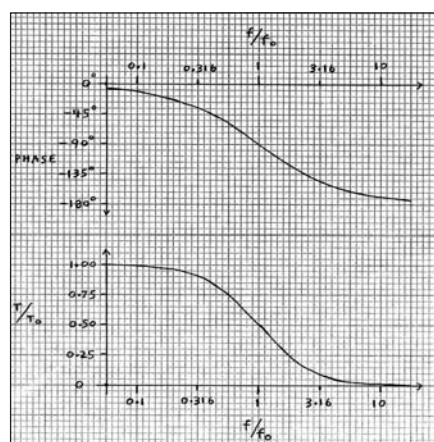

FIGURE 3: All-pass phase and group delay, log frequency scale.
Figure 3 shows the same data with log frequency scales. Note that the curves are now symmetrical about f_0 , where the phase is -90° and the group delay (T) is down to half the LF value (T_0) of $1/\pi f_0$, which T approaches for $f \ll f_0$.